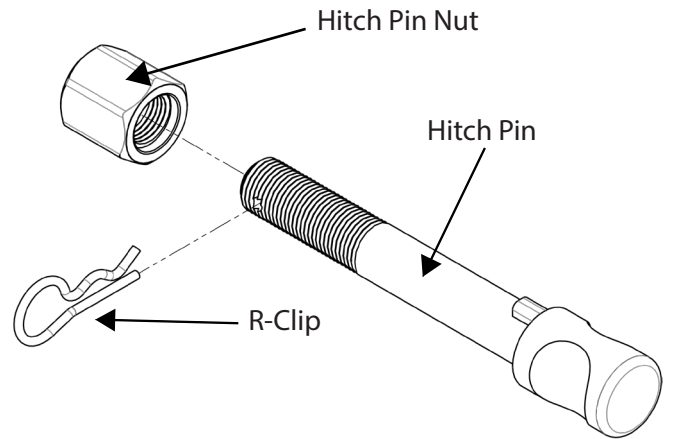

Fig 1. Silent Anti-Rattle Hitch Pin assembly
- a. Remove taillight assembly via 2 screws on both sides, refer figure 1.
Figs 1 remove taillight assembly.
Install HITCH PIN R CLIP through the hole on the HITCH PIN (Fig. 1).